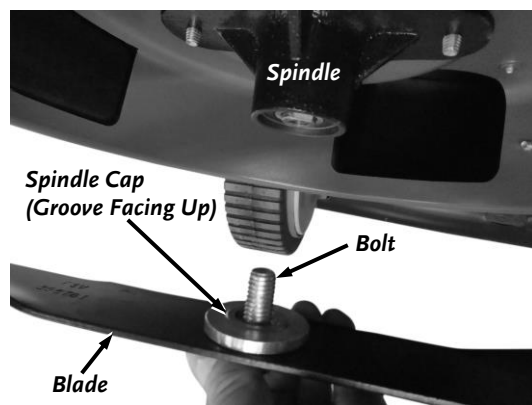

Figure 27
5. Position the Spindle Cap (groove facing up) and Blade (bent ends facing up) onto the Shaft and secure with the Bolt (**Figure 27**).